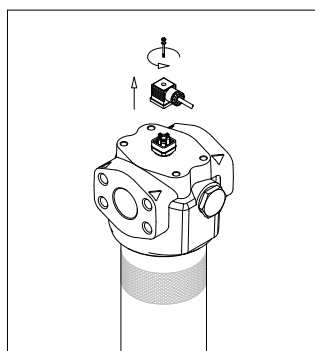
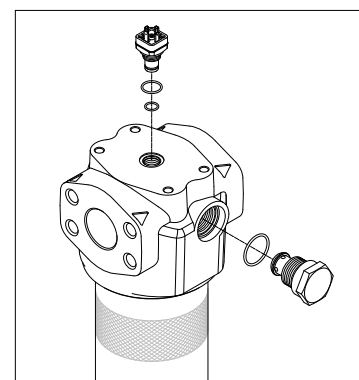

fig. 13
fig. 31
- (Fig. 13) Remove the connector of the differential indicator by unfastening the central screw (only for electrical indicators)
- (Fig. 31) Replace the O-rings of the indicator body. For the mounting/dismounting of the indicator, please refer to the paragraph "Clogging indicator replacement" above (Fig. 13÷16). Replace the O-rings of the reverse flow